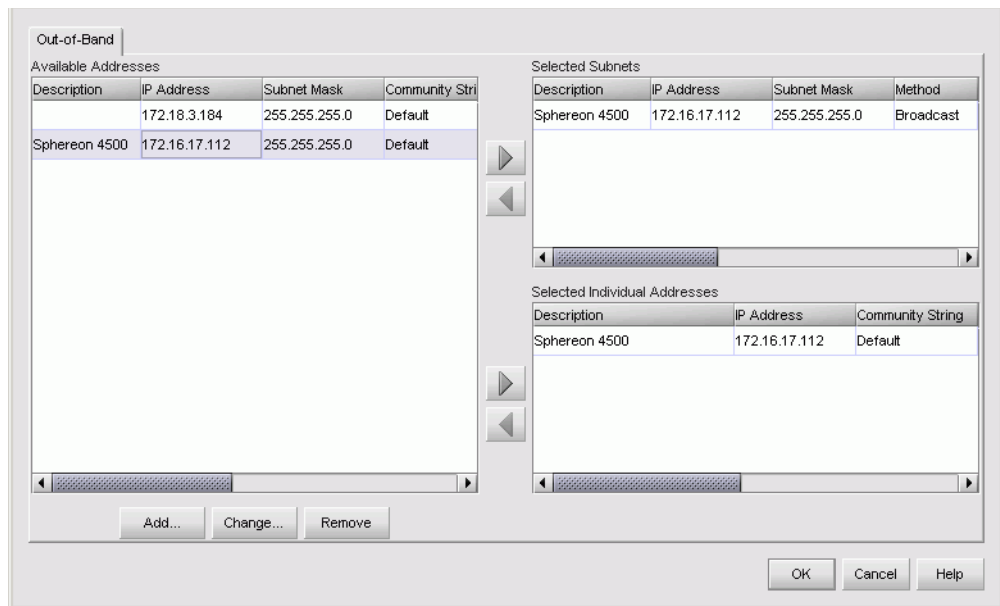

Figure 4-68 Discover Setup Dialog Box
- c. At the SAN management application, select the *Setup* option from the *Discover* menu. The *Discover Setup* dialog box displays (Figure 4-68).
- a. Delete the icon representing the reset director. At the SAN management application, select the *Setup* option from the *Discover* menu. The *Discover Setup* dialog box displays (Figure 4-68).